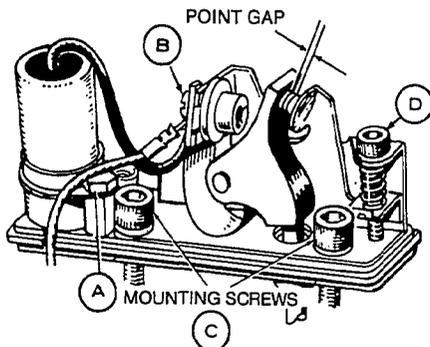

FIGURE 1. SETTING POINT GAP
4. Remove two Allen screws (C) and lift breaker assembly from engine.
6. Adjust point gap by rotating crankshaft clockwise (facing flywheel) by hand until the points are fully open. Set the point gap (using flat feeler gauge) to gap specified in *SPECIFICATIONS* by adjusting the Allen screw (D) inward or outward (Figure 1). A .016 inch point gap is equivalent to 16° BTC. A .020 inch point gap is equivalent to 20° BTC. Make sure feeler gauge is clean and free of any grease, oil, or dirt.
4. Connect an ohmmeter or a continuity test lamp set across the ignition breaker points. Touch one test prod to the coil lead terminal (screw B, Figure 1).